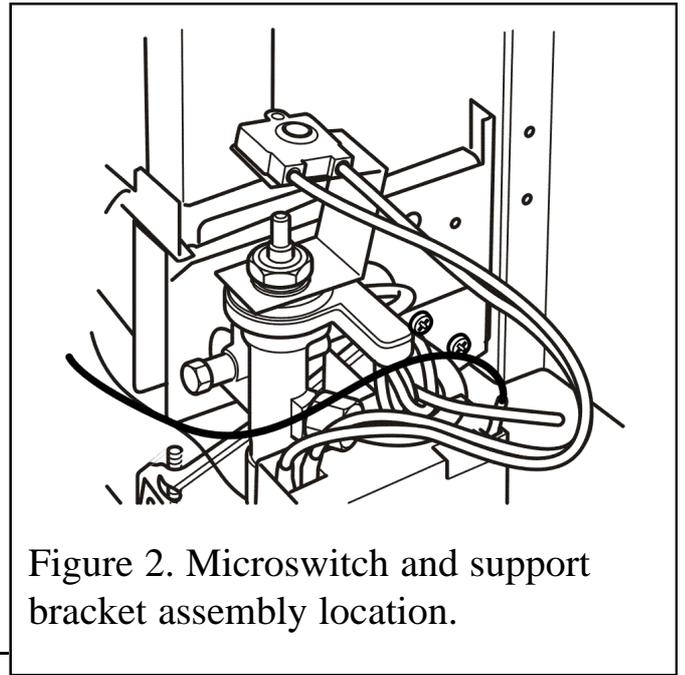

Figure 2. Microswitch and support bracket assembly location.
2. Locate the microswitch and microswitch mounting bracket assembly onto the top of the gas valve (See figure 2). There is a tag that locates to the slot in the threaded section of the gas valve. This will prevent the bracket rotating.